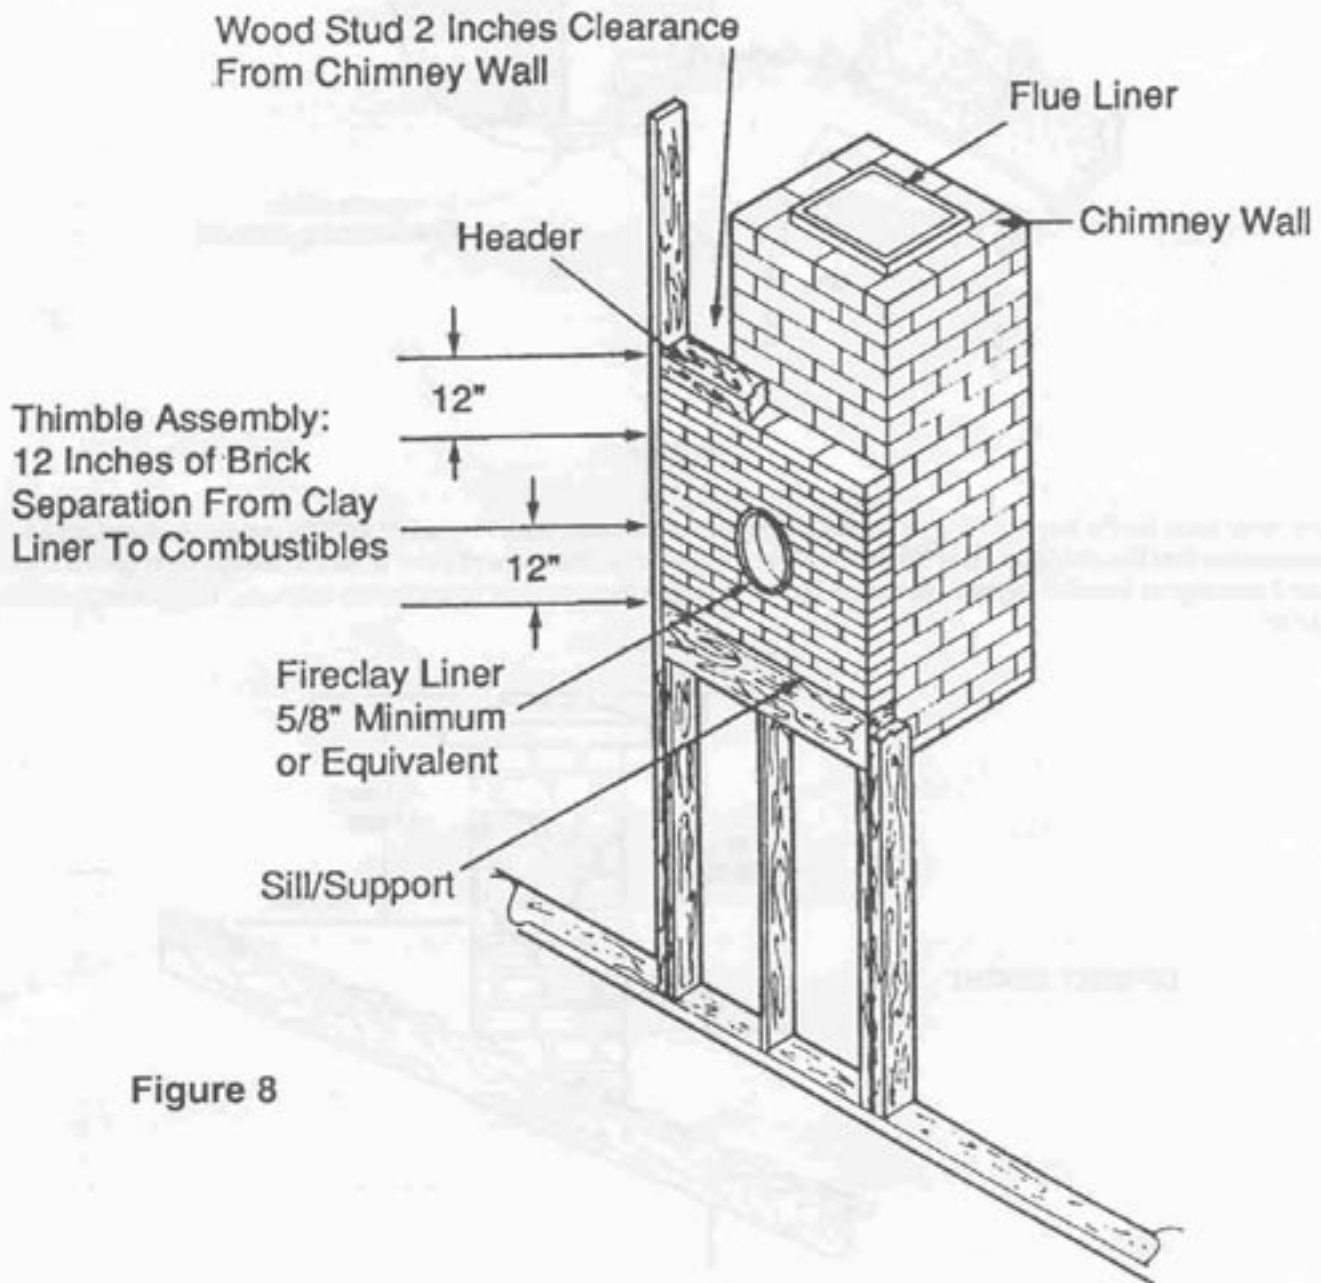

Figure 8
A. Brick chimney thimble assembly – Construction of the brick thimble assembly requires 12 inches of brick around a fire clay liner. Be sure the point of penetration allows a 24 inch clearance from the connector to the ceiling. An opening of 30 inches (for a 6 inch chimney connector) must be cut in the wall to maintain the required 12 inches of brick separation from combustibles. It will be necessary to cut wall studs and install a header and sill frame to maintain proper dimensions and to hold the weight of the brick. (FIGURE 8).